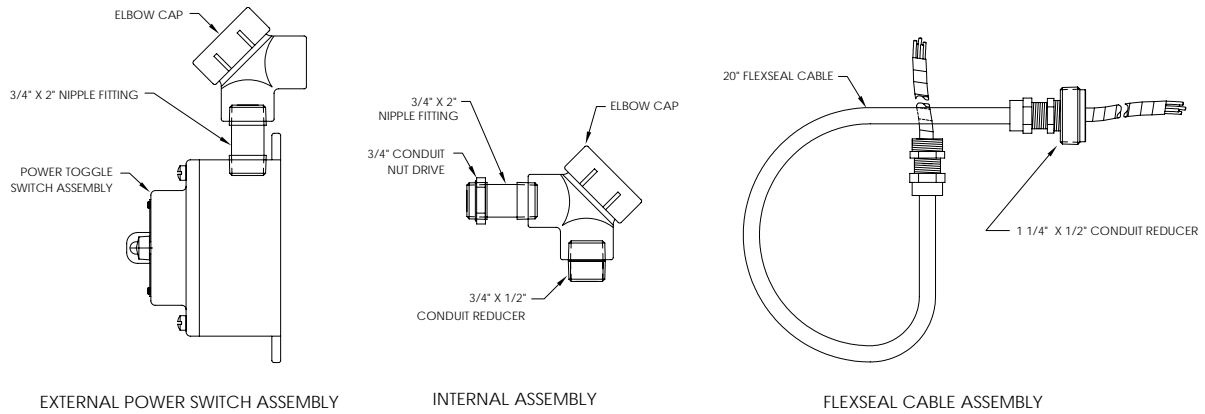

Figure 20 Power Switch Assembly
- 1) Beginning with the Internal Assembly, insert the nipple fitting through the mounting hole from the inside to outside (see Figure 20).